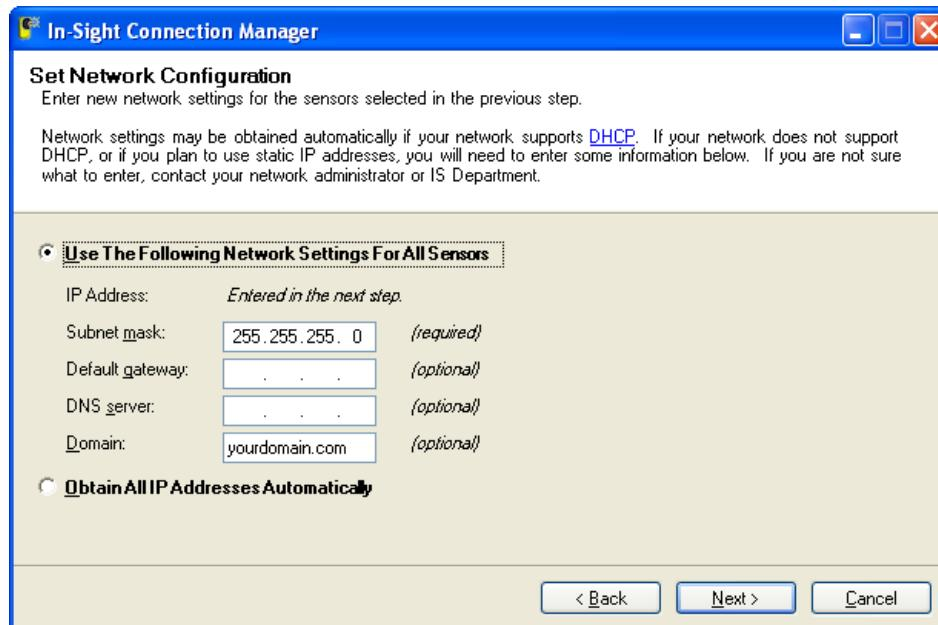

Figure 2-17: Set Network Configuration Dialog
6. In the Set Network Configuration dialog (Figure 2-17), select the first option, “Use The Following Network Settings For All Sensors”.